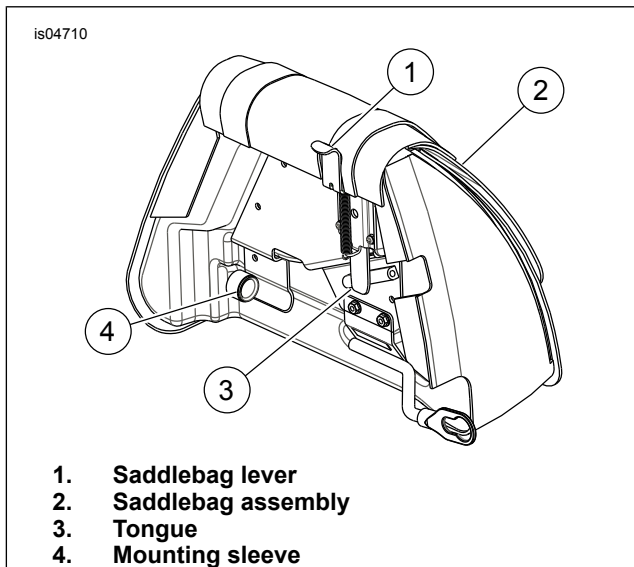

Figure 1. Saddlebag Assembly
- For FXCWC and FXCW Models without Touring System Strut Kit:** Install spacer (9), mini docking point (8), washer (7) and TORX screw (1) to the saddlebag support structure in the tapped hole. Tighten screw to 47–61 N·m (35–45 ft-lbs). **For FXCW Models with Touring System Strut Kit:** Install spacer (13) between frame and support strut (10), install spacer (9), mini docking point (8), washer (7) and TORX screw (1) to the saddlebag support structure. Tighten screw to 47–61 N·m (35–45 ft-lbs).
- See Figure 1. Install saddlebag assembly (2) to the saddlebag support structure by inserting the structure rod into the mounting sleeve (4) while lifting the saddlebag lever (1) and positioning the keyhole slot of the saddlebag support (figure 3 item 12) over the docking point (figure 3 item 8). Slide the saddlebag forward until the tongue (3) is centered in the striker keeper (figure 3 item 11), release the lever.
1. See Figure 1. Lift the saddlebag lever (1) while sliding the saddlebag assembly (2) rearward.